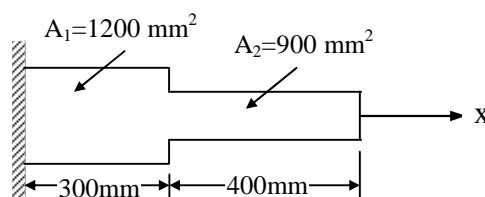

Fig. 7
- b) Consider axial vibration of the steel bar shown in Fig.7, (i) develop the global stiffness and mass matrices and (ii) determine the natural frequencies and mode shapes using the characteristic polynomial technique.